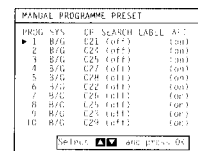

Fig. 24.
- 3 Select Manual Programme Preset with Δ + or ∇ - and press OK. The MANUAL PROGRAMME PRESET menu appears. (See Fig. 24.)